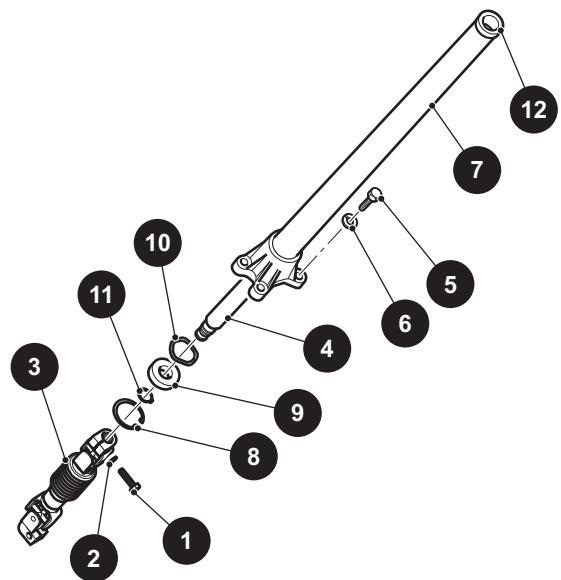

Figure 22 Steering Shaft and Column
1. To remove the steering shaft (4) (Figure 22), remove the steering wheel.
5. Remove the bolt (1) and washer (2) that secure the intermediate shaft (3) to the steering shaft (4).
6. Remove the four bolts (5) and washers (6) that secure the steering column (7) to the chassis. Remove the column.
7. Remove the large retaining ring (8) on the bottom end of the column. Pull the shaft and bearing (9) out of the column as an assembly. Slide the wave washer (10) out the bottom end of the steering column.
8. Remove the small retaining ring (11) and press the bearing from the steering shaft.